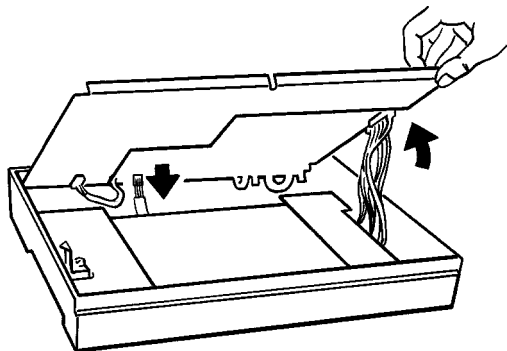
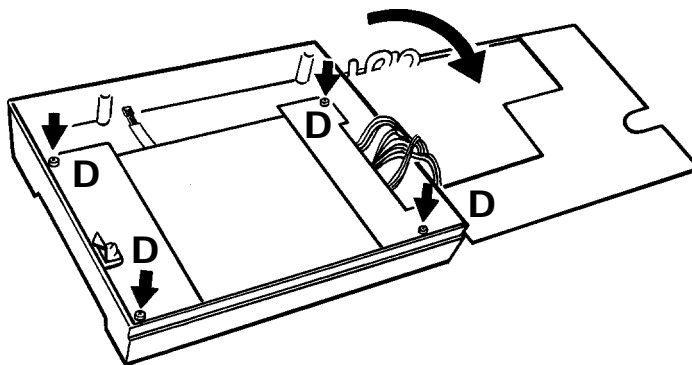
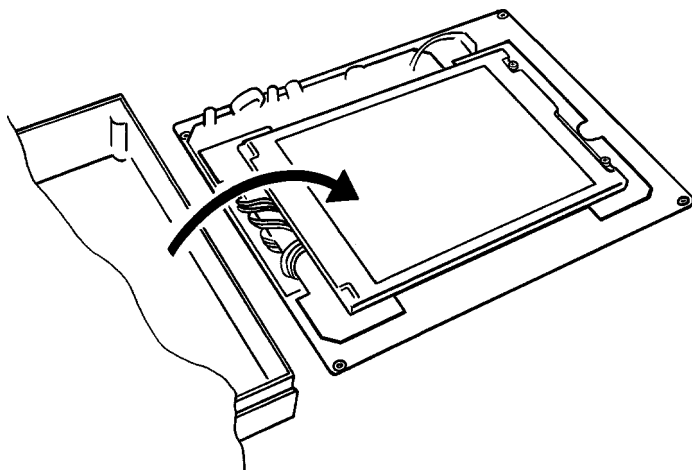

Figure 2c Lift inner cover and disconnect connector
Figure 2d Cover open
Figure 2e Display unit removal
- b Carefully remove the door inner cover, by lifting the cover and disconnecting the connector as it becomes accessible (figure 2c). swing the cover over to reveal the display unit (figure 2d).
- c Remove the four display unit securing screws ('D' in figure 2d) and lift the display unit out and lay it on the inner cover (figure 2e).